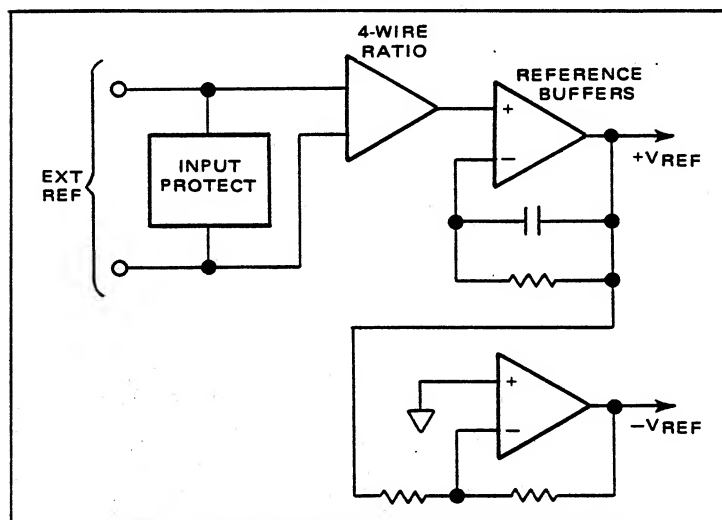

Figure 5.12 - External Reference (DC EXT REF)
5.3.4.6.2 The Model 6000 will accept DC external reference voltages between $+1.0$ and $+10.5$ volts when DC EXT REF is selected. As shown in Figure 5.2, the external reference voltage is routed through the normally closed contacts of the ACR relay to the differential inputs of the 4-Wire Ratio amplifier. The 4-Wire Ratio amplifier acts as a buffer, and eliminates ground loop errors by permitting the reference voltage to float with respect to the input signal common. The output of the 4-Wire Ratio amplifier is routed through the normally closed contacts of the ACR relay and the normally open contacts of the Ratio relay to the input of the Reference Buffers. The Reference Buffers are unity gain amplifiers, and provide plus and minus reference voltages equal in magnitude to the external reference voltage. A simplified block diagram is shown in Figure 5.12.